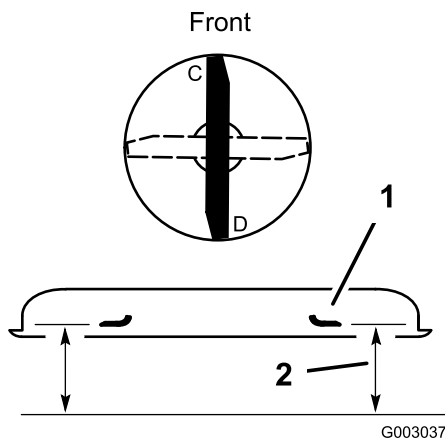

Figure 49
2. Position one blade front-to-rear (Figure 49). Measure at **C** and **D** locations from a level surface to the cutting edge of the blade tips (Figure 49).